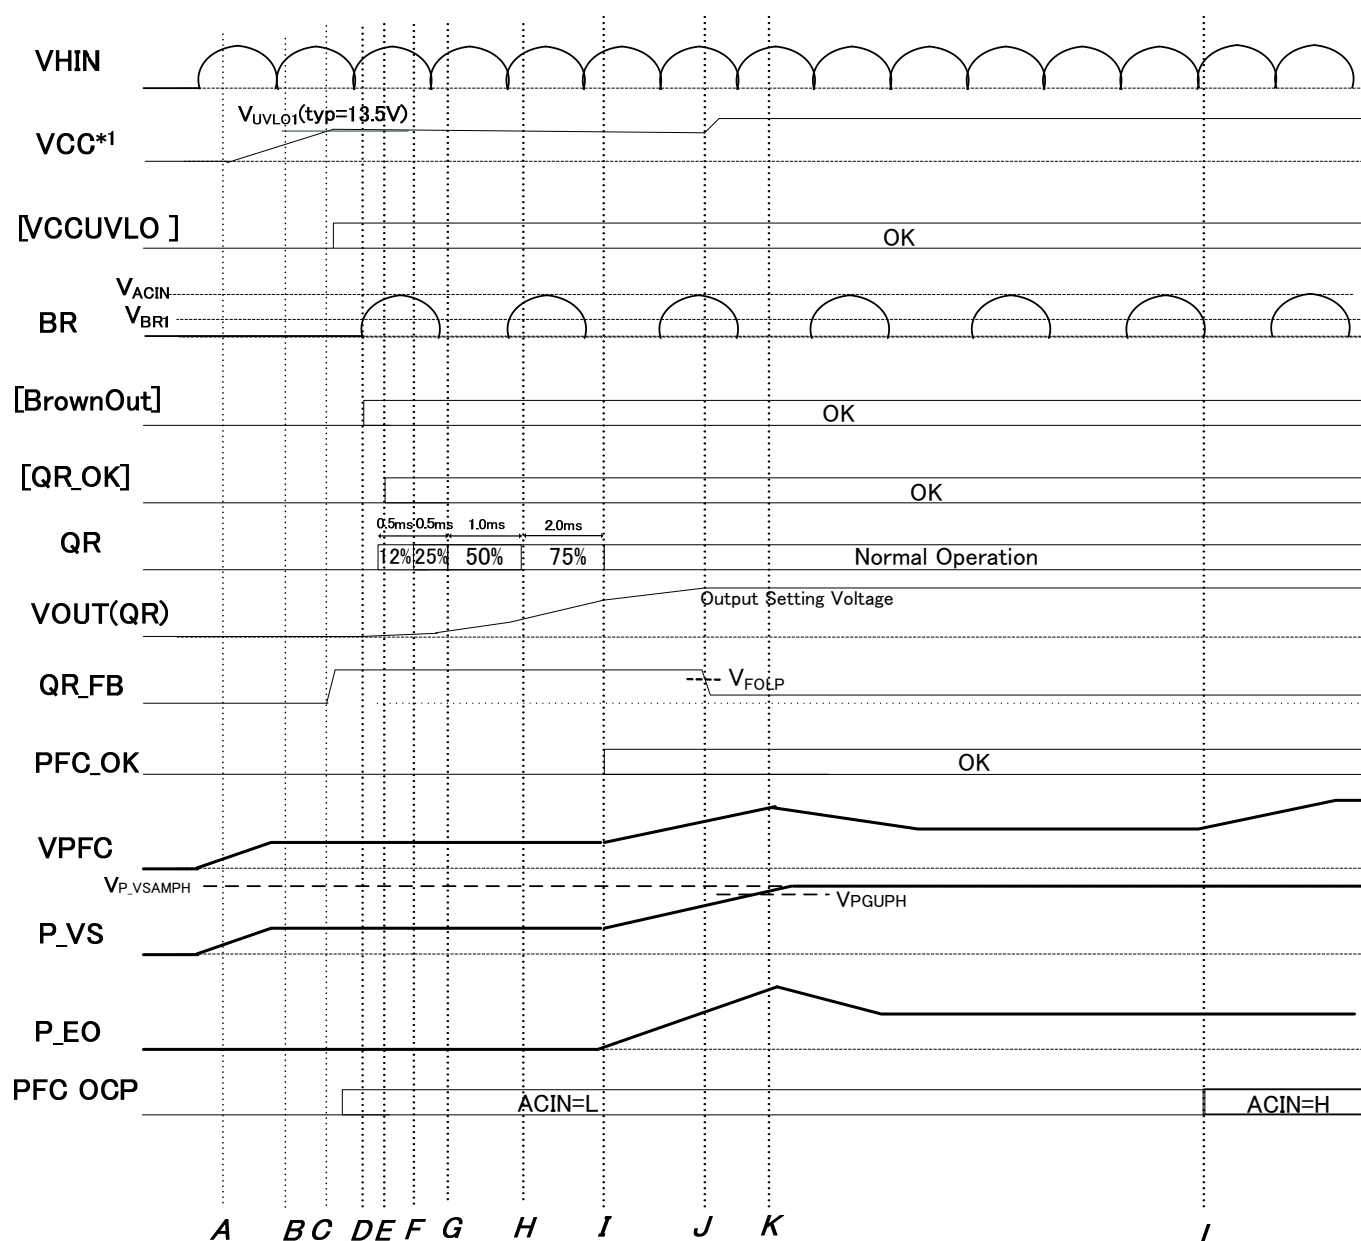

Figure 6. Start-up Sequence Timing Chart
When the V_{CCUVLO} is released and the brown out function is released, then IC starts. At starting, QR starts to operate in soft start first. After the soft start finishes, PFC starts to operate. After QR output is stable, in the case of POFFSET voltage > CS detect voltage PFC stops. The PFC off time is set at P_TIMER pin. In the case of POFFSET voltage < CS detect voltage for more than 4ms, PFC switches from OFF to ON. The waveform of start-up is shown in Figure 6. However, if P_EO voltage isn't charge, PFC operates according to the charge of P_EO voltage.
•Operation explanation of Figure 6.
The IC PFC OCP detect voltage is switched from -0.6V to -0.4V because ACIN=H is detected in Figure 6.